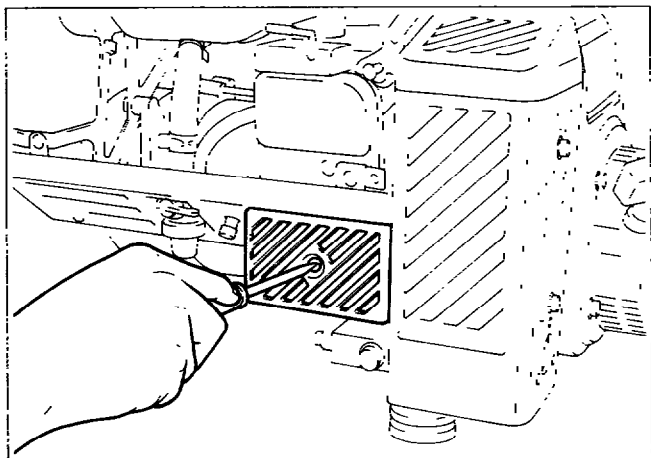

Fig. 10-7
| 5. | Front cover | (1) Remove the element cover by unscrewing M6 × 12 screw. (See Fig. 10-7.) | | (-) Driver |